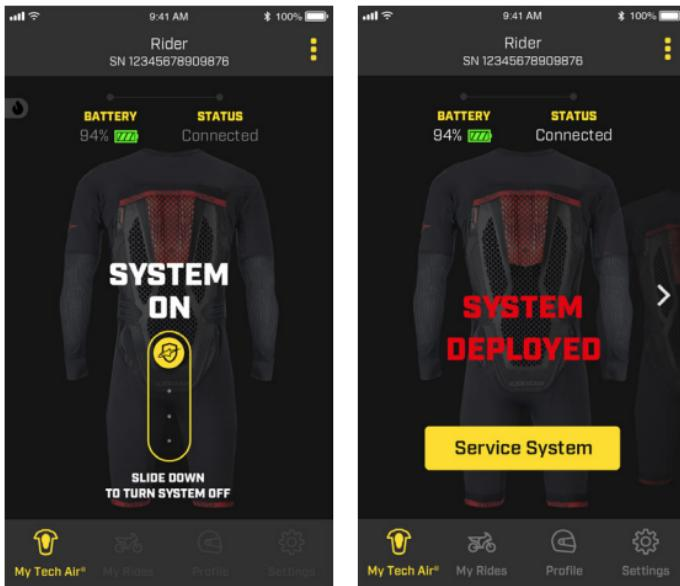

Figure 16
While riding, "System On" mode is active and accordingly, for safety reasons, the user cannot access most of the App functions. In case the System needs to be disabled by the user, such as during a heavy off-road riding session, the System can be turned off using the slide icon on the App (as shown in Figure 16). To reactivate, open and close the Activation Belt (4).
In case of deployment, the App will show the relevant status with the wording "SYSTEM DEPLOYED" as depicted in Figure 16.